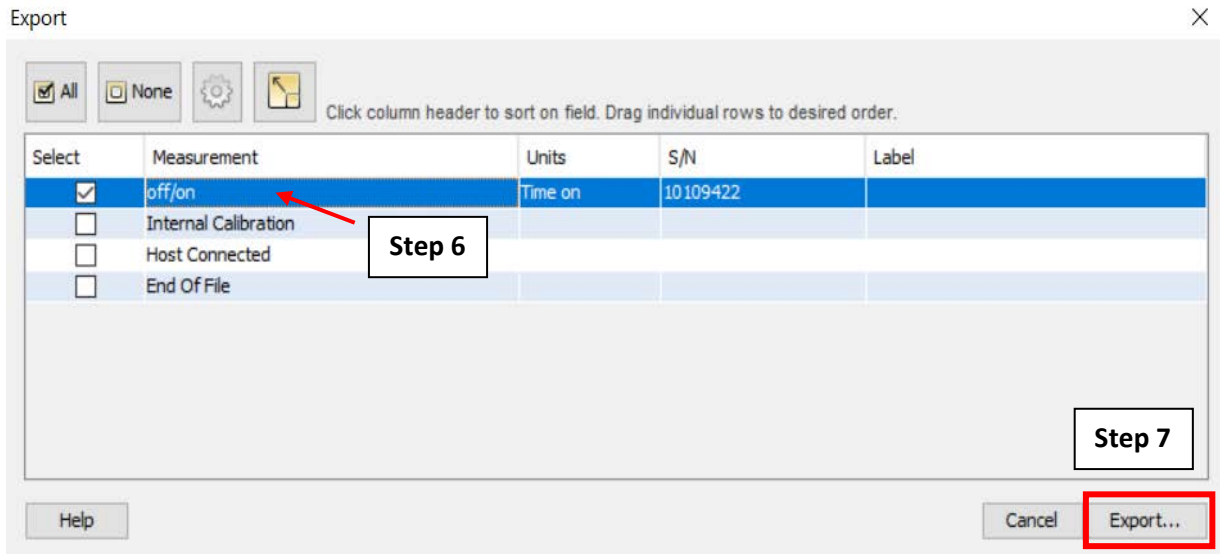

Figure A.5.17: The “Export” pop-up window and corresponding steps.
4. The “Export” window will open and display the data available to export (Figure A.5.17).